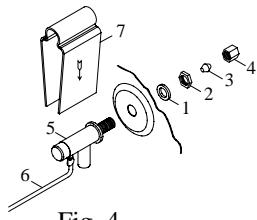

Fig. 4
- Install float valve and fill pan.** Refer to Fig. 4. Remove items 1, 2, 3, and 4. Insert float body (5) through hole in back post panel as shown. Install washer (1) and nut (2). Tighten to keep float from turning. Place nut (4) and ferrule (3) on water supply line. Connect to float fitting and tighten until water tight. Bend rod (6) to adjust float until water level is about 1 inch below the top of the overflow pipe. Slide float shield (7) over float body (5) until it snaps into place.